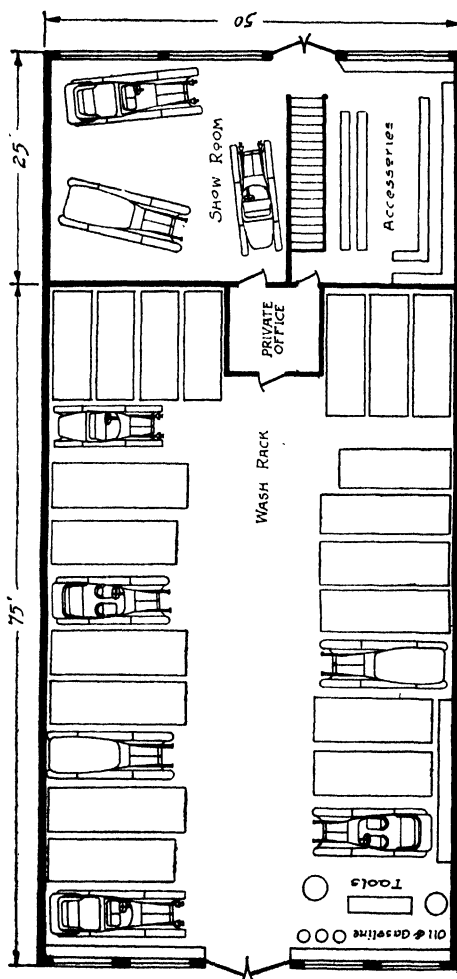

Fig. 6. Rearrangement of Fig. 5 to Give More Car Storage Space
*Layout 4.* By eliminating the private office, or rather combining it with the other office, with a door opening into both the show room and the accessory salesroom, and by leaving out the toilets, as indicated in Fig. 6, which is this same plan revised, 5 cars may be added to